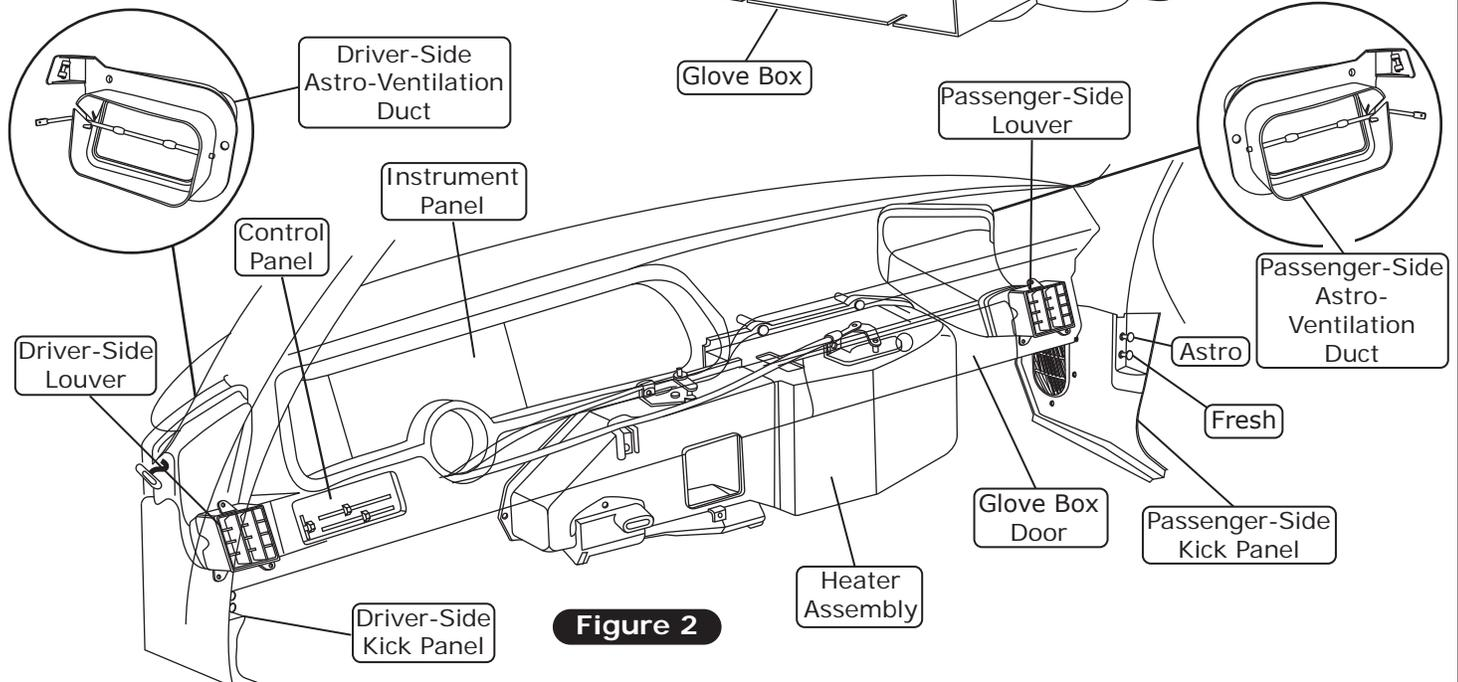

Figure 2
1. Remove the glove box door (See Figure 2, below).
3. Remove the heater assembly and all related ducting (discard, but retain screws) (See Figure 2, below).
4. Remove the driver/passenger-side louver outlets (retain) (See Figure 2, below). **NOTE: The instrument panel must be removed to get to the left outlet and the control panel.**
5. Remove the control panel assembly (discard) (See Figure 2, below). Refer to control panel kit instructions for installation of controls.
6. Remove the passenger-side kick panel (retain). Remove the passenger-side fresh air cable from the panel (See Figure 2, below). Remove the driver/passenger cable astro-ventilation ducting (discard).